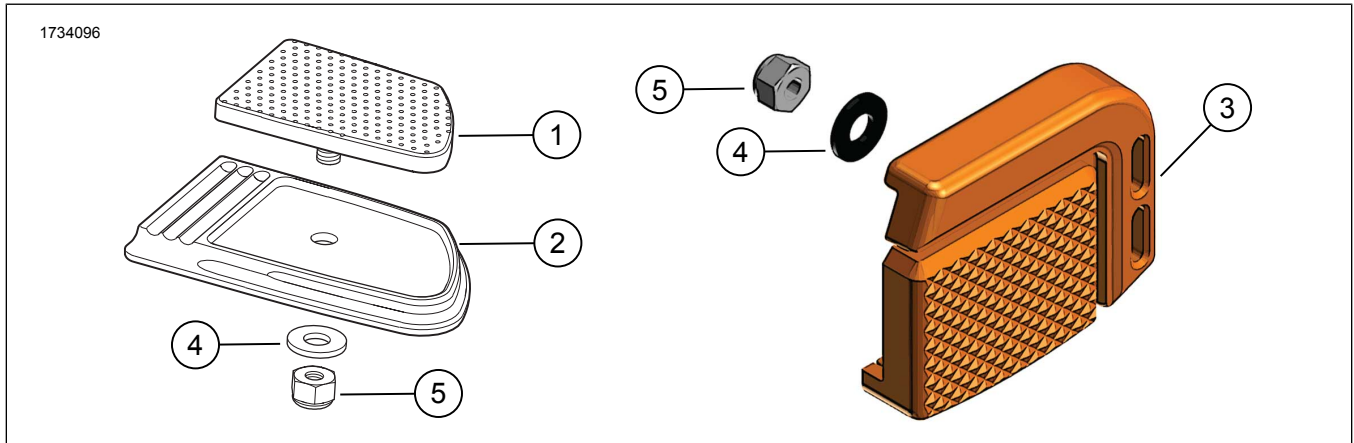

Figure 1. Kit Contents: Small Brake Pedal Pad Kit
1. Figure 1 Remove currently installed brake pedal pad from vehicle foot brake lever. Discard pad and attaching hardware.
1. Figure 1 Kits 50600182, 50600187, 50600188:
- a. Align the **new** brake pedal pad (1) with the recess in the trim cover (2).
2. Figure 1 Kits 50600509, 50600510:
- a. Align **new** brake pedal assembly (3) with vehicle foot brake lever.
4. Install washer (4) onto threaded stud.
5. Install ¼-20 hex locknut (5) onto threaded stud. Tighten.